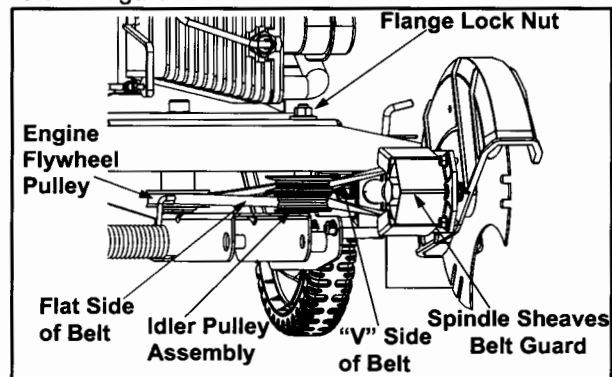

Figure 15
- Working in front of the edger, loosen the flange lock nut on top of frame, allowing the idler pulley assembly to pivot slightly out from the frame. See Figure 15.
IMPORTANT: To aid in reassembly, note the orientation of the drive belt on the two idler pulleys and the engine flywheel pulley prior to performing the following steps. Refer to Figure 15.
IMPORTANT: Make certain that the “V” side of the belt is seated into the top pulley and the flat side of the belt is seated into the bottom pulley. See Figure 15.